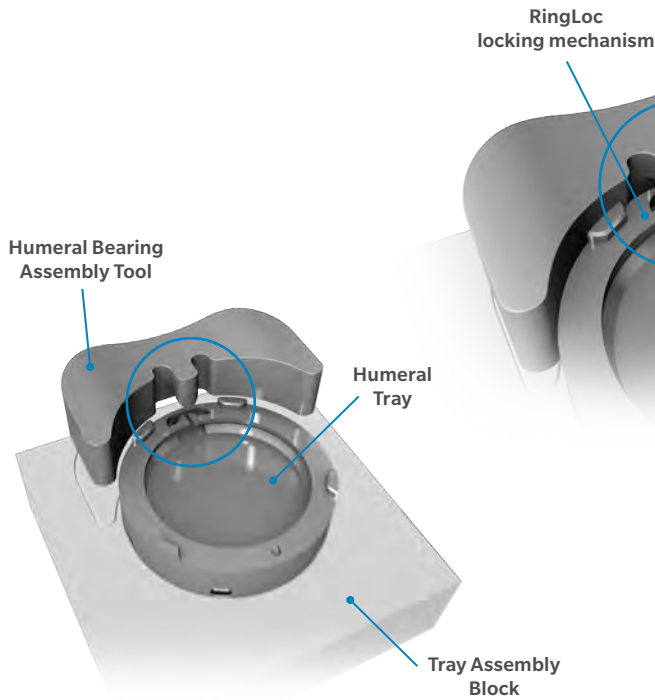

Figure 35
- Place the definitive Humeral Tray into the Tray Assembly Block (Figure 35).